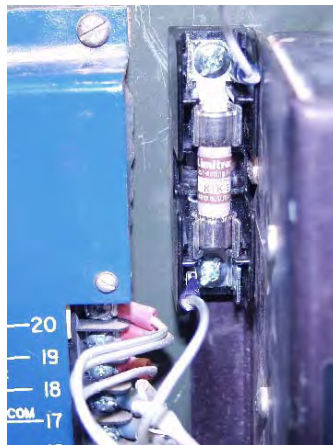

Figure 3. Lower Wire Connection
8. Install wire # 141A20 on the lower male quick disconnect terminal of the fuse holder. (Figure 3)